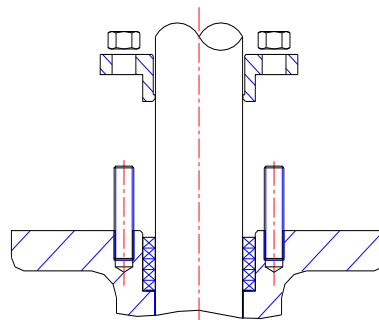

Fig. 14
- In order to gain access to the packing, remove the gland follower and slide it up to the actuator. See Fig. 14 hereunder: